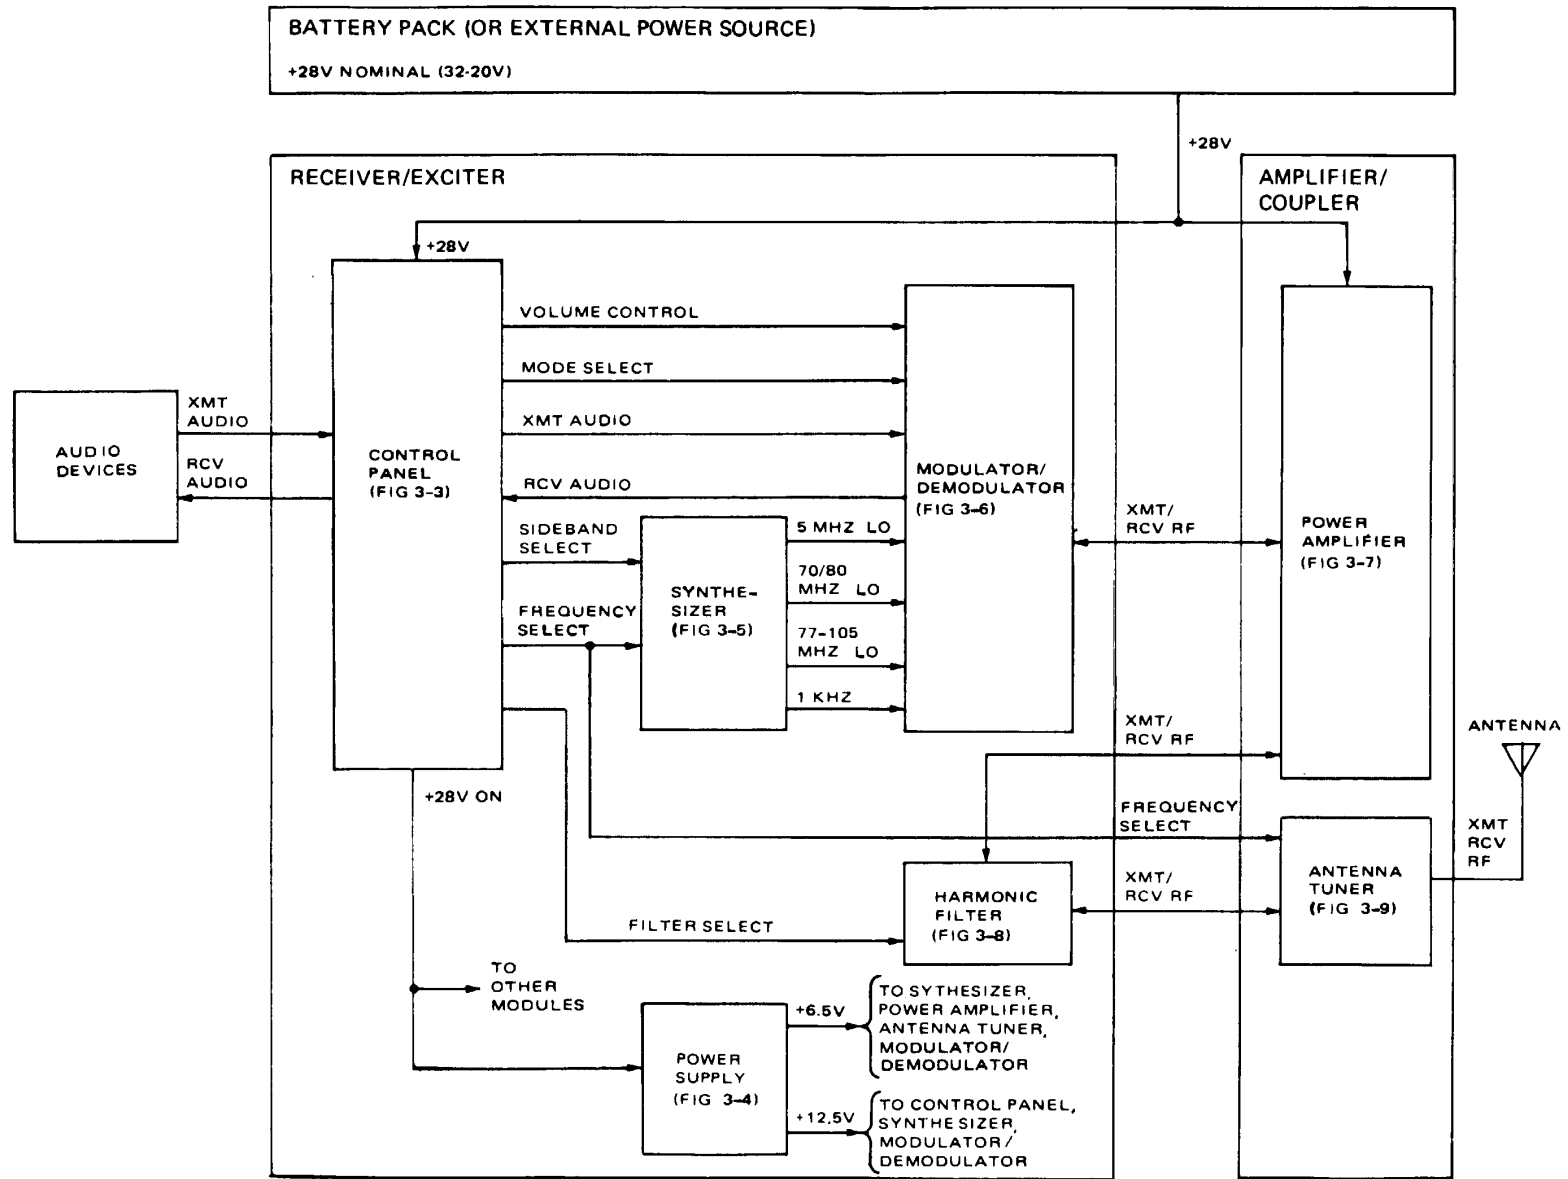

Figure 3-2. Radio Set Simplified Block Diagram
**3-10. CONTROL PANEL** (Figure 3-2). The receiver/exciter control panel provides operational control of the radio set. It couples voice or CW key from the audio devices in use by the operator, and has controls for selection of frequency, volume, mode, and sideband (SB), and illumination of frequency readouts. Frequency Select and Sideband Select signals are routed to the synthesizer, and the Frequency Select signal also to the antenna tuner. Filter Select signals are routed to the harmonic filter. Volume control, mode select and Xmt Audio are applied to, and Rcv Audio is received from, the modulator/d -modulator. The control panel also